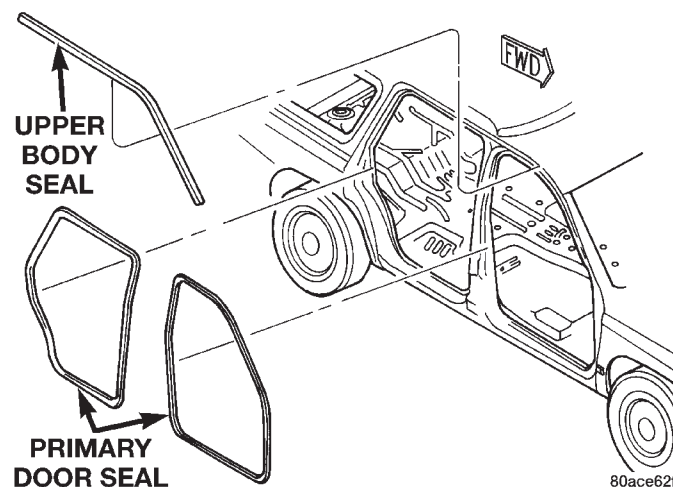

Fig. 40 Door Opening Weatherstrip
- (1) Remove A-pillar trim.
- (2) Remove lower cowl trim.
- (3) Remove door sill trim.
- (4) Loosen upper and lower B-pillar trim to access weatherstrip.
- (5) Pull weatherstrip from pinch flange around door opening (Fig. 40).